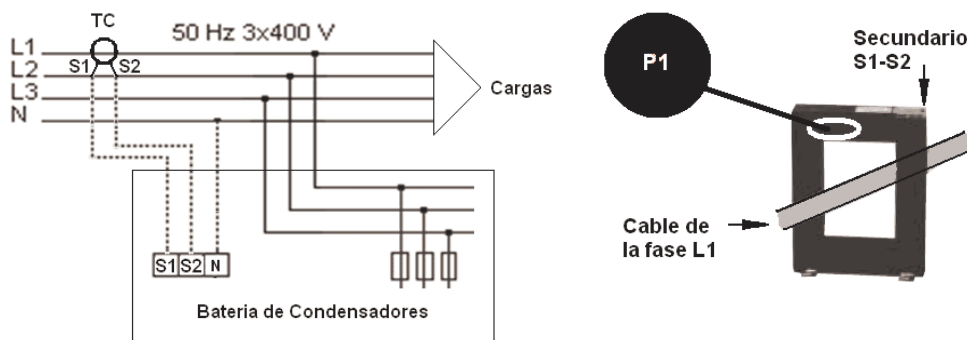

Fig. 5-3 .- Installation of the current transformer (TC) (external)
|  | <p>A current transformer (TC) that is external to the filter bank must be installed to measure the total load current plus that of the filter bank (see Fig. 5-3).</p> <p>The standard transformer must have a nominal output of 5A at the secondary. We recommend connecting the TC to phase L1 in the direction of the current flow from P1 to P2 (see Fig. 5-3) and connecting the secondary (terminals S1, S2) to the terminals with the same name on the filter bank (see Fig. 5-3). Avoid the flow of current through the TC's primary before connecting the secondary to the filter bank's S1 and S2 terminals. If the TC must be installed while the installation is under load, short-circuit S1 and S2 while they are not connected to the filter bank.</p> |